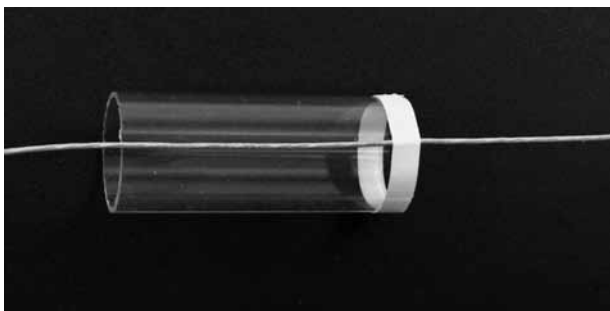

Figure 2-8 Start of transformer coil winding.
The primary coil of the T1 transformer coil uses 80 turns of Litz wire for maximum efficiency, but heavy Themaleze magnetic wire will work. To build this primary coil, lay the wire across a $1\frac{3}{4}$ - \times - $\frac{3}{4}$ -inch outside-diameter (OD) tube, with several inches of wire overhanging the edge (enough length to reach the component to which the coil will be attached plus a little slack), and wrap the end of the tube with some tape to secure the wire in place (Fig. 2-8). If you don't have "thin" tape, just cut a strip to about $\frac{3}{8}$ -inch width, but it is important to use a thin strip of tape here because the bend of the wire should be close to the tube edge.